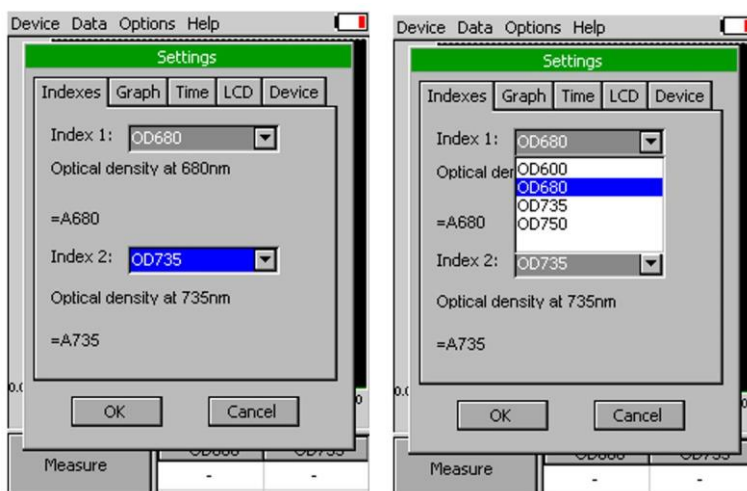

Fig. 7 Settings - Indexes.
- **Indexes** - Select indexes to be calculated and displayed on the main screen (Fig. 7). **Optical density indices** – values are calculated as $OD = -\log(I/I_0)$ - where I_0 is the irradiance that is transmitted through the cuvette filled with clear medium. This quantity must be measured as the reference. I is the irradiance transmitted through the cuvette with algal or cyanobacterial suspension in which the OD is measured. Log is the decadic logarithm of the I/I_0 ratio. Thus, the optical density $OD=1$ means that the light at the respective wavelength is attenuated by the algae or cyanobacteria 10 times relative to the reference. With $OD=2$, the attenuation relative to the reference is 100 times.